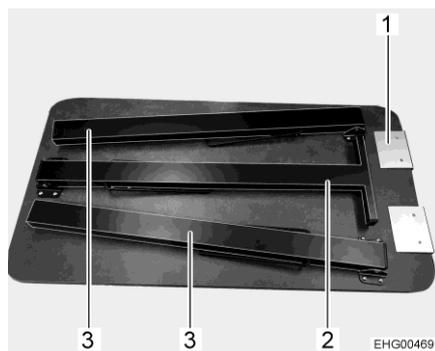

Fig. 12 Table (table legs folded)
- Attach the table's short side (Fig. 12,1) to the rail in the kitchen area.
- Unfold out the middle table leg (Fig. 12,2).
- Fold out all 3 table legs (Fig. 12,2 and Fig. 12,3).